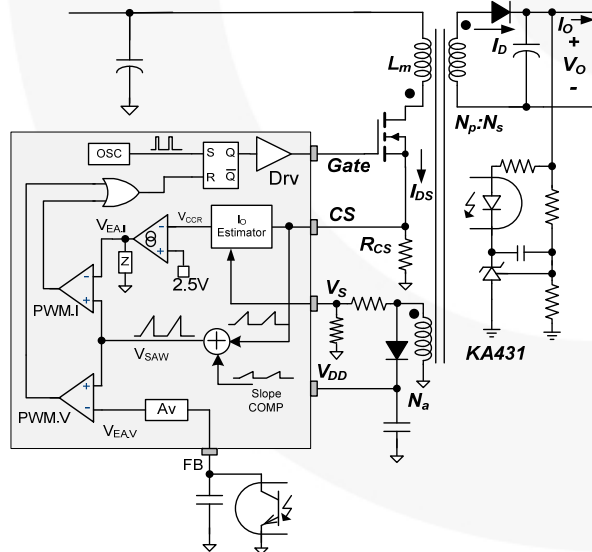

Figure 24. Internal PWM Control Circuit
Figure 24 shows the internal PWM control circuit. The constant voltage (CV) regulation is implemented in the same way as the conventional isolated power supply, where the output voltage is sensed using a voltage divider and compared with the internal 2.5 V reference of a shunt regulator (KA431) to generate a compensation signal. The compensation signal is transferred to the primary side using an opto-coupler and scaled down through attenuator  $A_v$ , generating the  $V_{EA,V}$  signal. Then the error signal  $V_{EA,V}$  is applied to the PWM comparator (PWM.V) to determine the duty cycle.